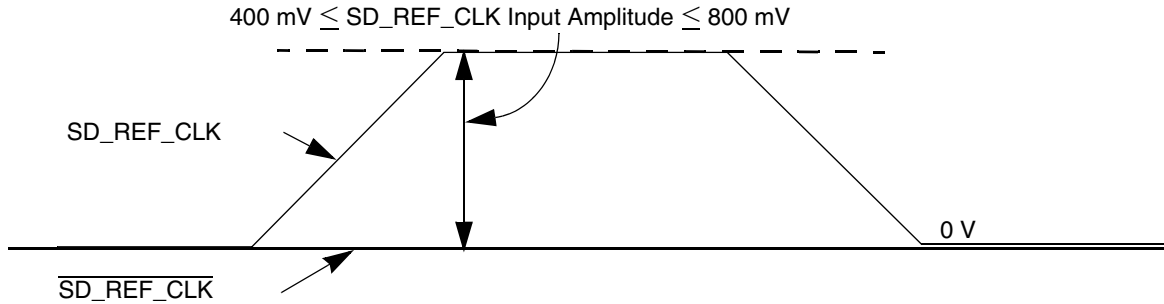

Figure 54. Single-Ended Reference Clock Input DC Requirements
- The SD_REF_CLK input average voltage must be between 200 and 400 mV. Figure 54 shows the SerDes reference clock input requirement for single-ended signaling mode.